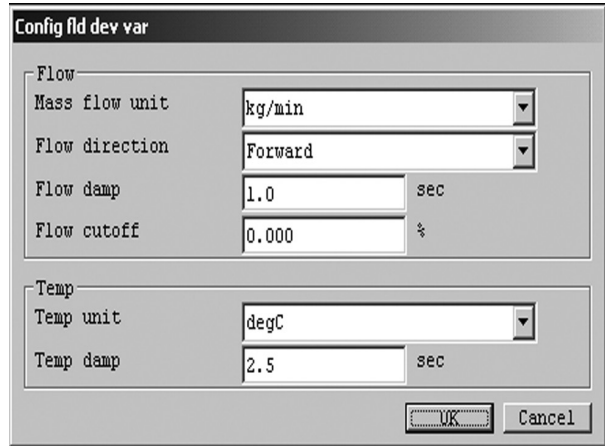

Fig.24
- ⑥ After clicking on "OK" button, the message box for filling in fields of menu items appears again. Click on "Cancel" button to hide the setup message box. To abort the setup process, click on "Cancel" button in the course of steps ② through ④ .
- ① Click on "Setup (S)" at the top-level menu of the screen, select "Config fld dev var" drop-down menu, and click again.
- ② A message box like the one shown in Fig. 24 appears. Transmitter parameters (flowrate, density, and temperature related parameters) are set up at this window.